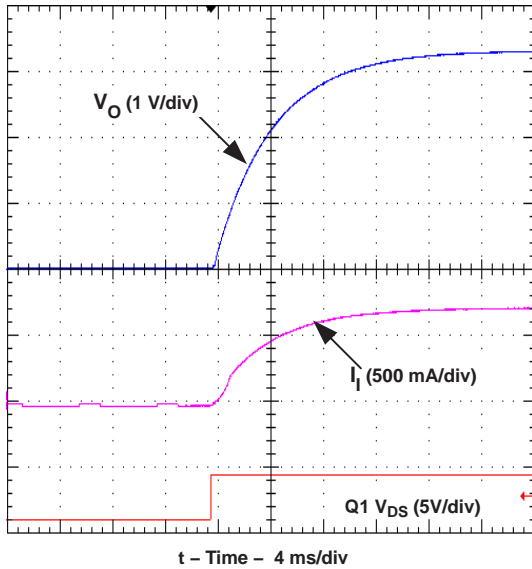

Figure 10. Power Up
**Turn-On:** With a valid input source voltage applied, the converter produces a regulated output voltage within 75 ms of the output being enabled. Figure 10 shows the output response of the PTEA420033P following the removal of the logic-low signal from the *Remote On/Off* (pin 2); see Figure 9. This corresponds to the drop in Q1  $V_{GS}$  in Figure 10. Although the rise-time of the output voltage is short ( $<10$  ms), the indicated delay time will vary depending upon the input voltage and the module's internal timing. The waveforms were measured with 48 VDC input voltage, and a 10-A resistive load.